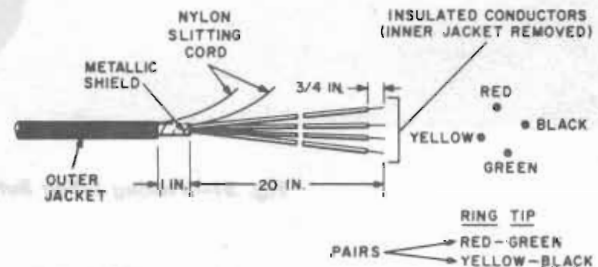

Fig. 54—Prepared Service Wire—LD-Type Cable Closure
14.04 Remove all unnecessary slack from the service wire. Mark the outer jacket of the service wire 1/4-inch below the AT-7796X connector. Prepare the service wire as illustrated in Fig. 54.
- (1) Prepare the service wire as illustrated in Fig. 54.